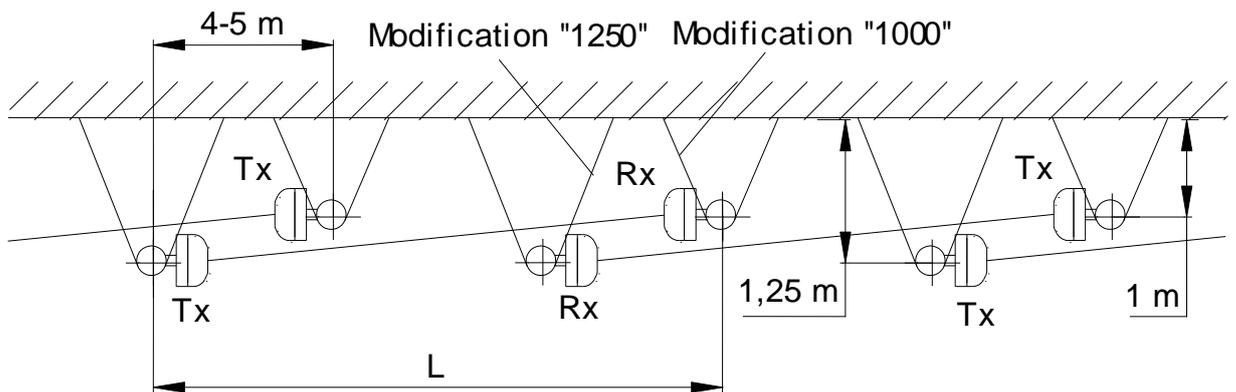

Figure 2.6 – Example of installation of the sensors BARRIER-24.M (general purpose) on BRACKET-1000, BRACKET-1250 with overlapping the detection zones
- 2.3.5.4 The example of installation of bistatic sensors using BRACKET-1000, BRACKET-1250 with overlapping the detection zones to avoid dead zones is given in Figure 2.6. In case of overlapping the detection zones, the bracket of the adjacent sector is located within the detection zone of the sensor. The bracket of the adjacent sector reduces the signal a little, so it is required to reduce the length of the sensor detection zone (L) for 1/3 respectively to the parameters given in Table 1.1.